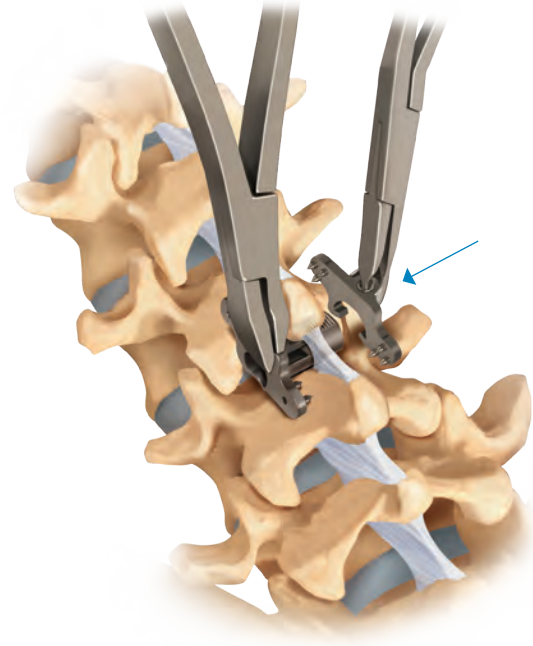

Figure 18
- Slide the lock plate over the barrel until it comes in contact with the spinous processes (**Figure 18**).